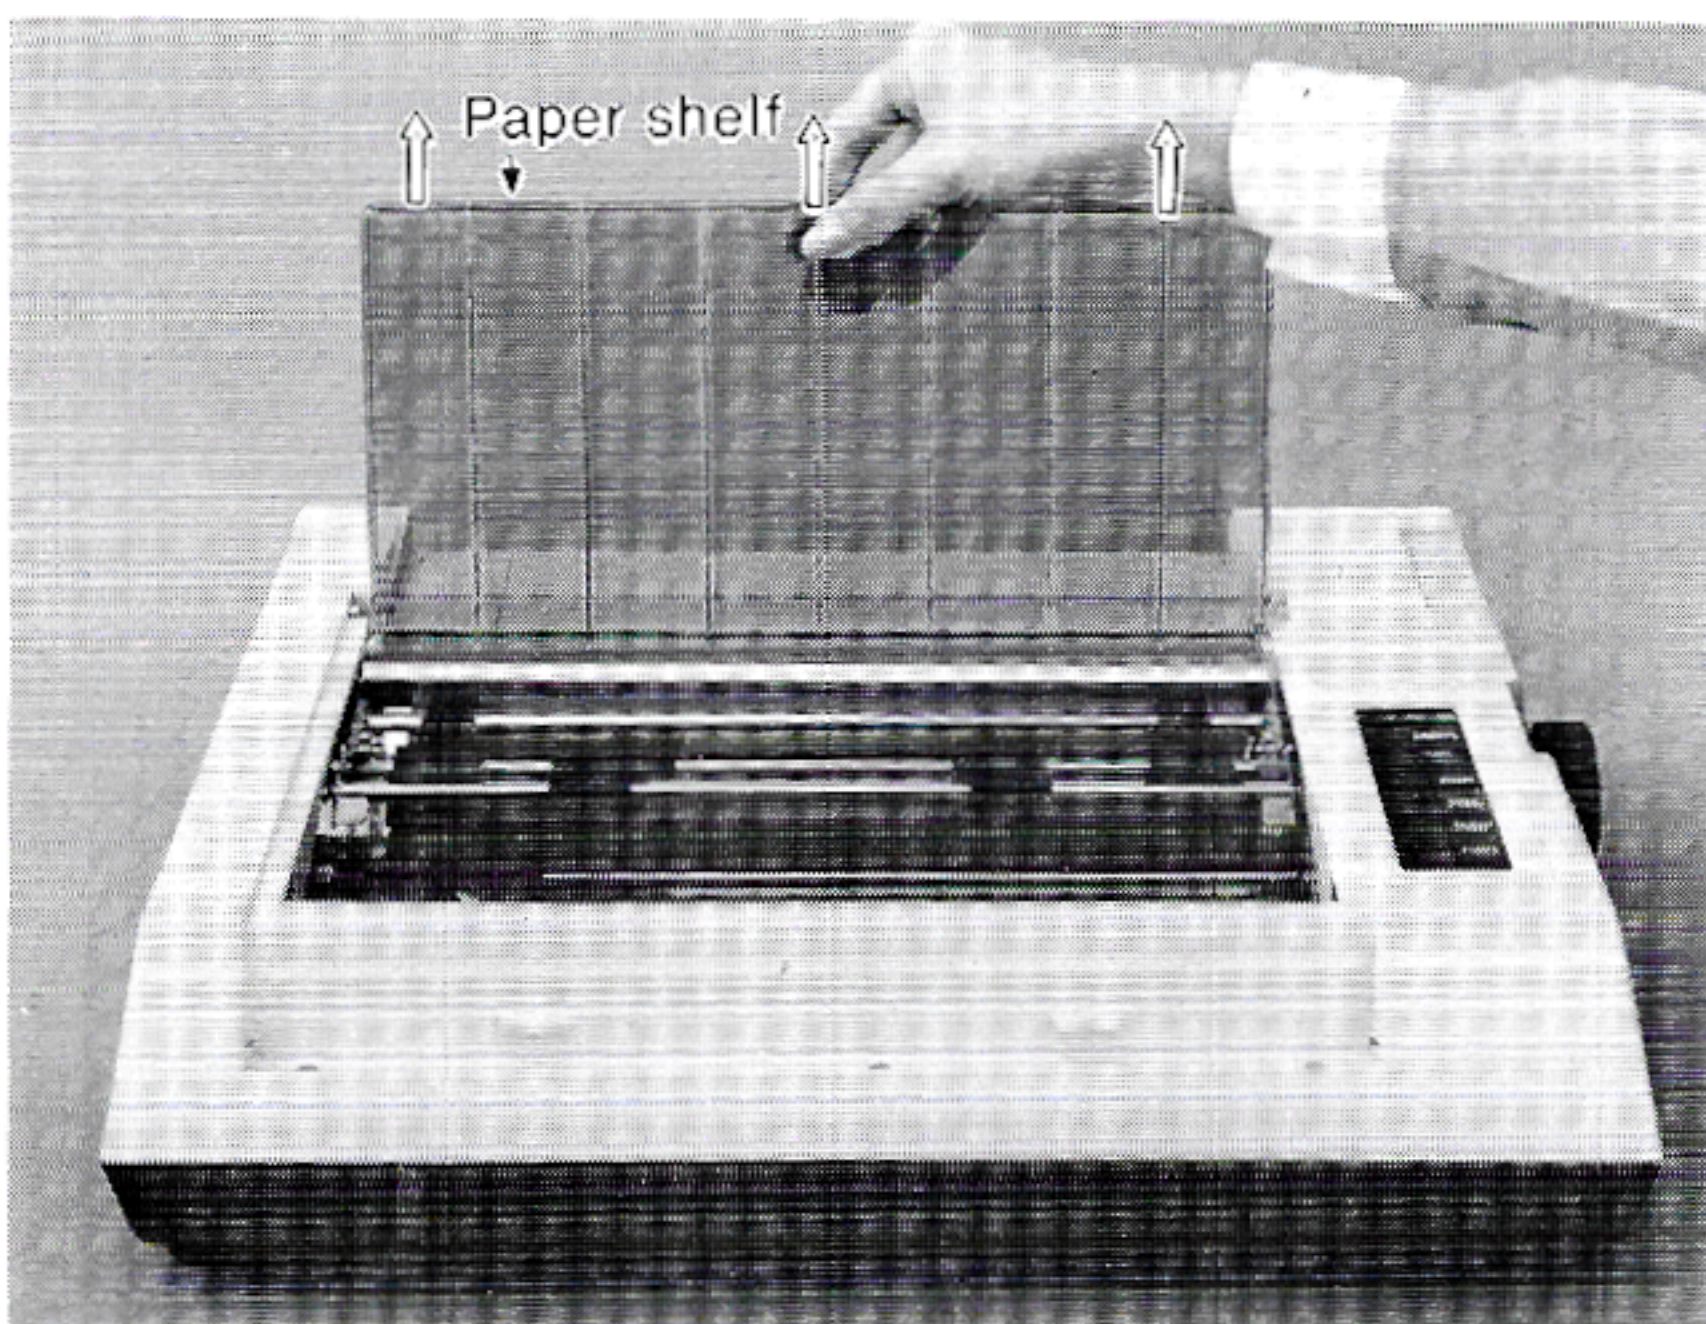

Figure 13
b) Rotate the paper shelf to a vertical position and remove it by lifting upwards (figure 13). Move the head adjustment lever all the way toward the front of the printer (refer to the section on the Head Position Adjustment).